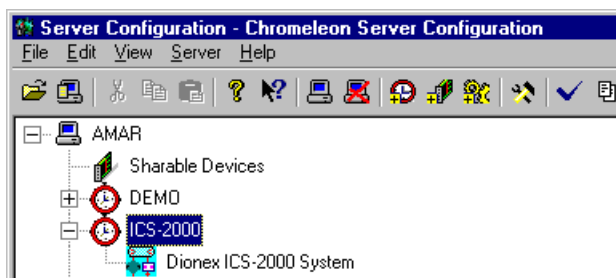

Figure 17. Example: ICS-2000 Timebase
1. Follow the instructions in *Installing the Chromeleon Chromatography Management System with a Dionex Ion Chromatography (IC)* (Document No. 031883) to add the DX-LAN card to the server configuration as a sharable device.
2. Select the timebase that was created for the ICS-2000 (see Figure 17); then, click the **Add device** icon  on the toolbar (or select **Edit>Add Device**).